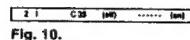

Fig. 10.
- b Select the second element of the number with Δ + or ∇ - or the number buttons. The selected number appears. (See Fig. 10.)